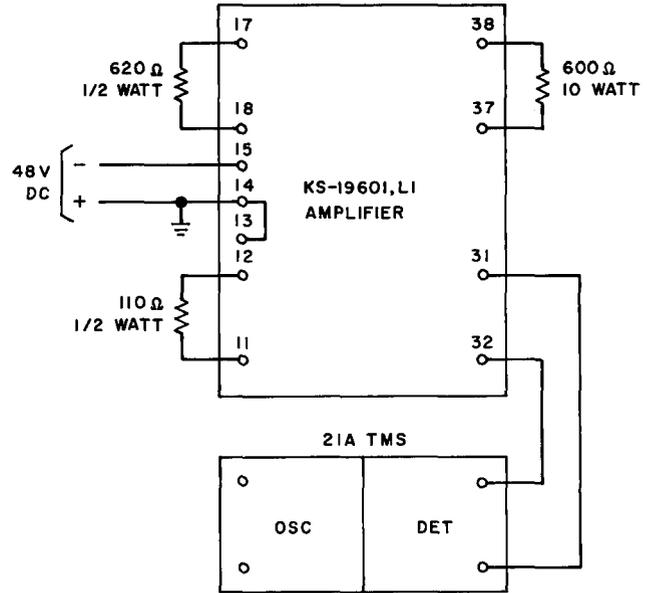

Fig. 6 — Test Setup for Measuring Noise of Low-Level Channel
4.02 The noise test for the low-level channel should be made in accordance with the test setup shown in Fig. 6. Chart V gives the step procedure to be followed in making this test.
2	Connect circuit as shown in Fig. 6. Note: If the VTVM is used to measure output, the VTVM should be shunted by a 600-ohm, 1/2-watt resistor.